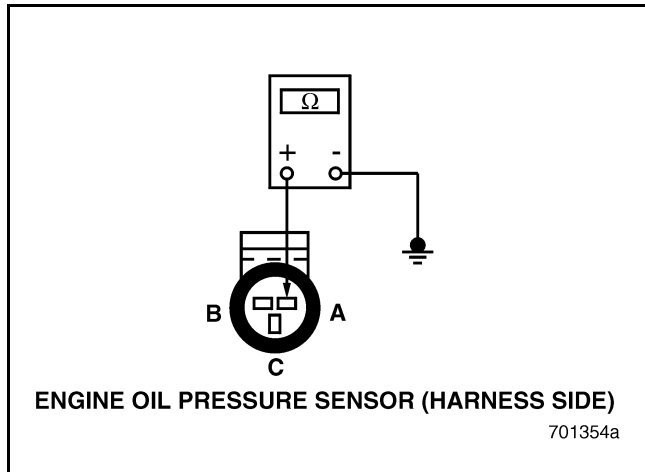

Figure 35
3. Check for continuity between EOP Sensor harness connector pin A (ground line) and a good ground (see Figure 35).